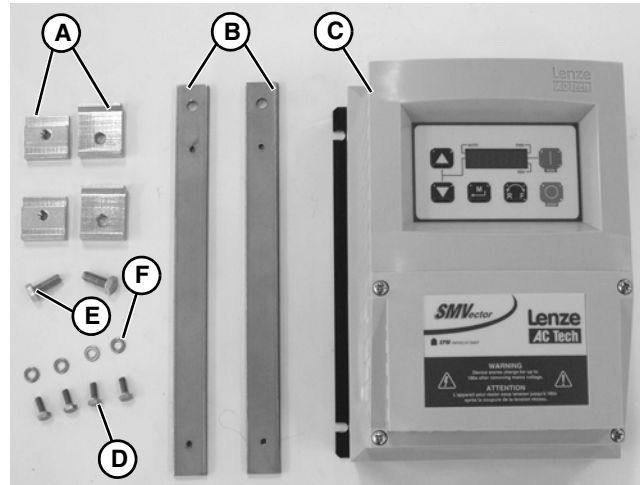

**Figure 13**
3. Attach controller (**Figure 13, item N**) to conveyor with M6 x 16 mm screws (**Figure 13, item P**).